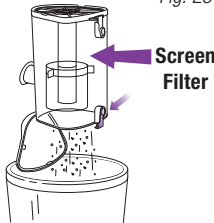

Fig. 24
- 3 If needed, turn the dust cup upside down over the trash receptacle and press the top door release button. (Fig. 24) Tap gently to remove contents.